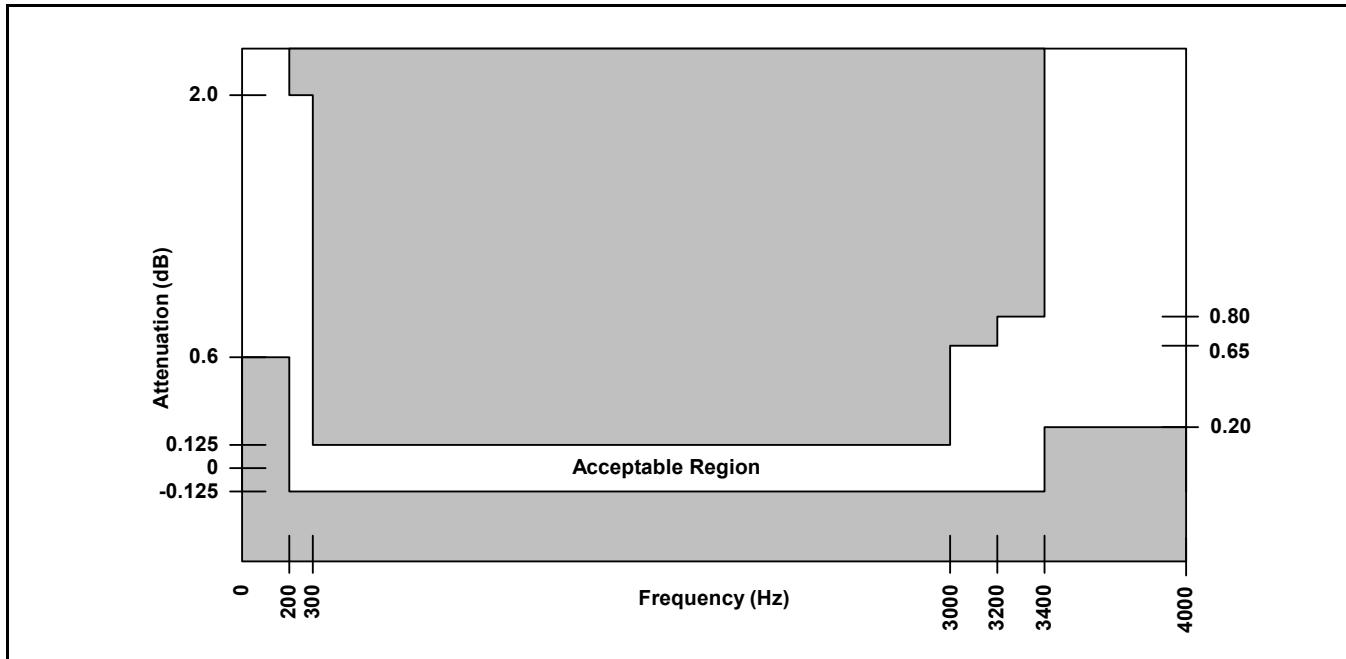
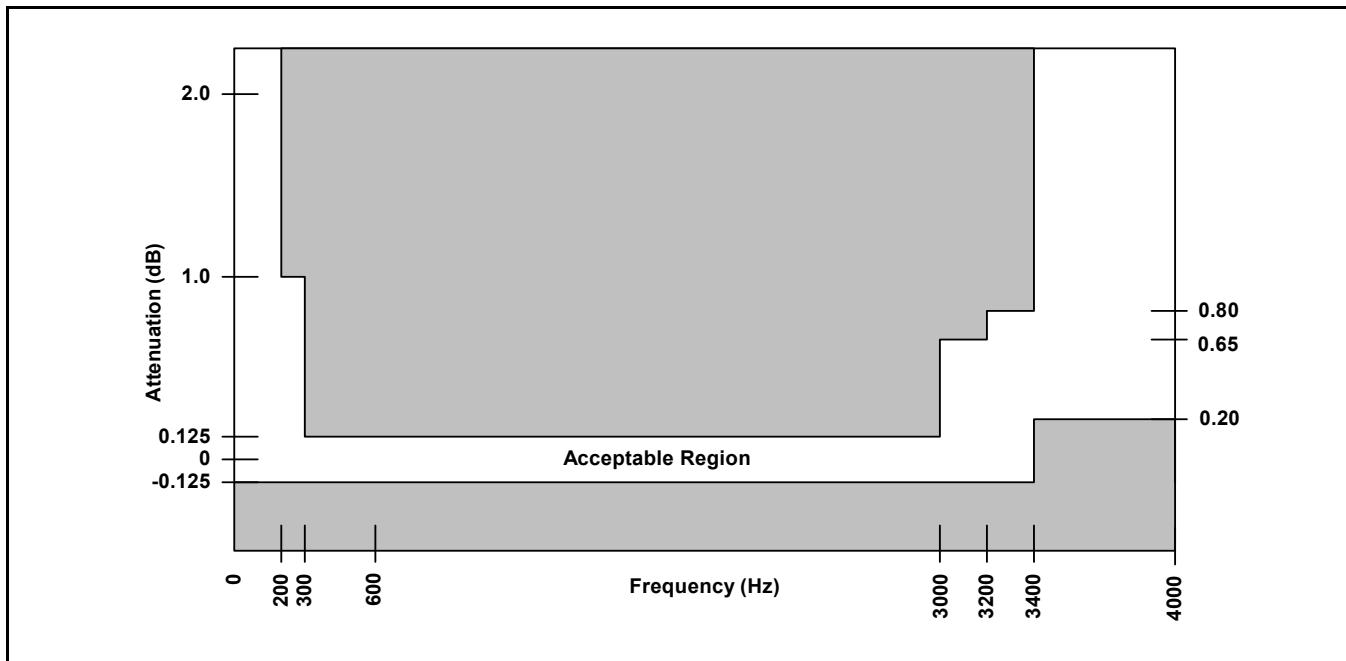

Figure 22 - Transmit Path Attenuation vs. Frequency
Figure 23 - Receive Path Attenuation vs. Frequency
3. See Figure 22 and Figure 23.
The signal attenuation in either path is nominally independent of the frequency. The deviations from nominal attenuation will stay within the limits shown in Figure 22 and Figure 23. The reference frequency is 1014 Hz and the signal level is -10 dBm0 .